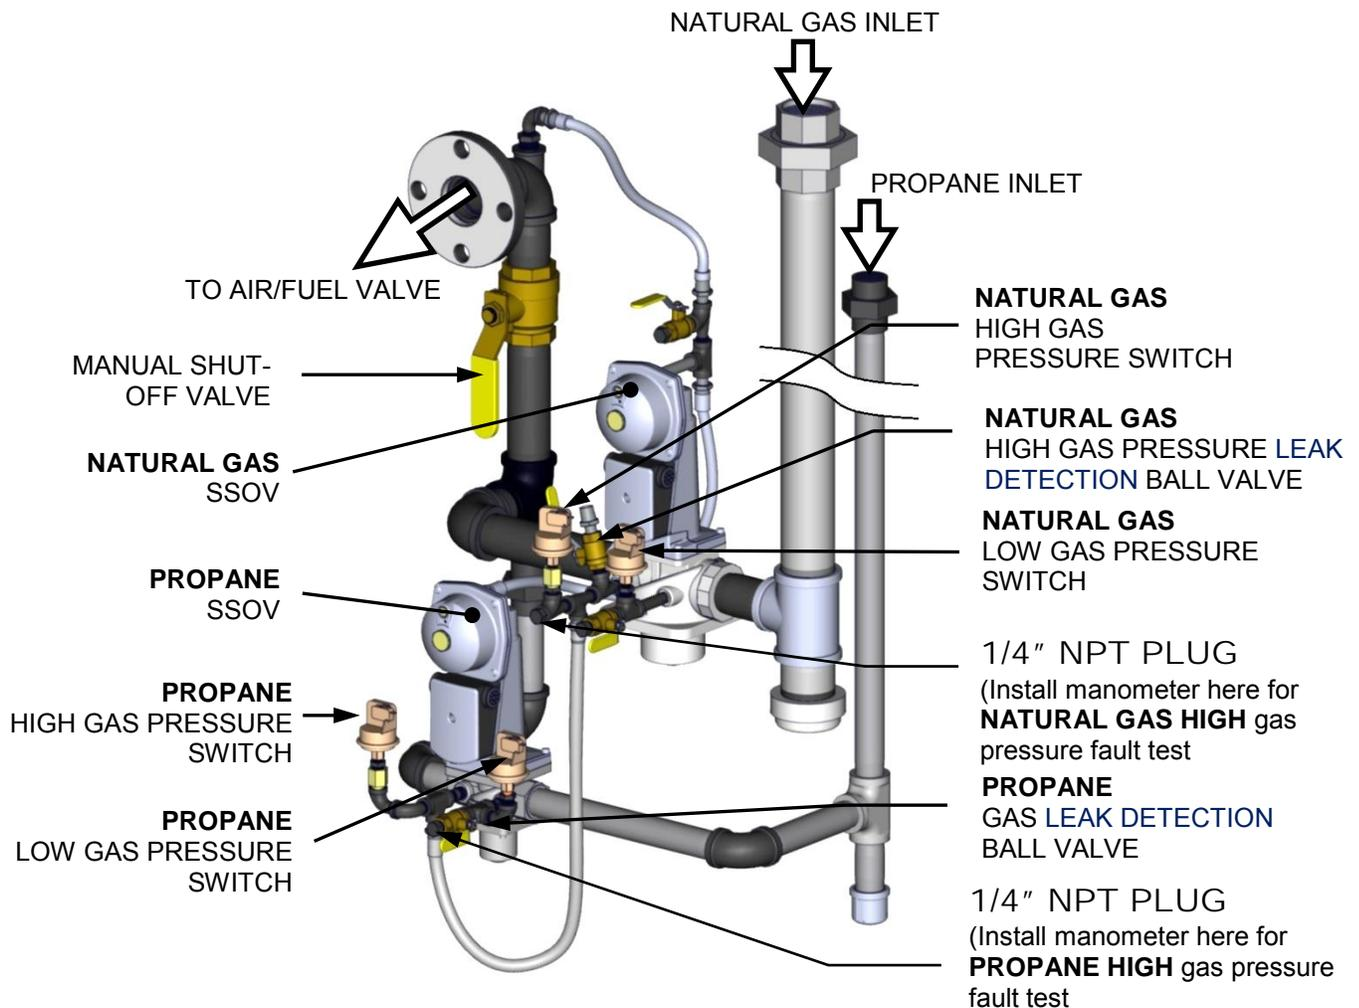

Figure 6-1b: BMK 1500DF/2000DF: High Gas Pressure Fault Test
To simulate a high gas pressure fault, refer to Figure 6-1b and perform the following steps:
1. Ensure that the appropriate high gas pressure leak detection ball valve (Natural Gas or Propane) is closed (see Figure 6-1b). Note that there are two Natural Gas leak detection ball valves (for high and low pressure) but only one on the Propane gas train.
2. Remove the 1/4" plug from the leak detection ball valve shown in Figure 6-1b.